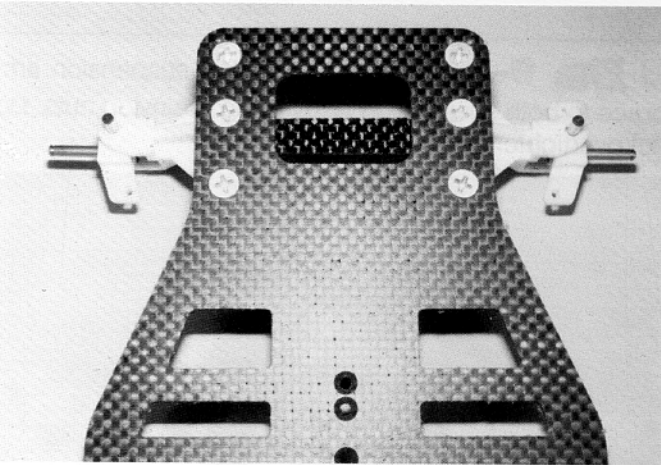

**Fig. 9**
□ **Fig. 9**—Now mount the #4430 suspension arm brace to both suspension arms using the nylon nuts. Do not overtighten the nylon nuts.